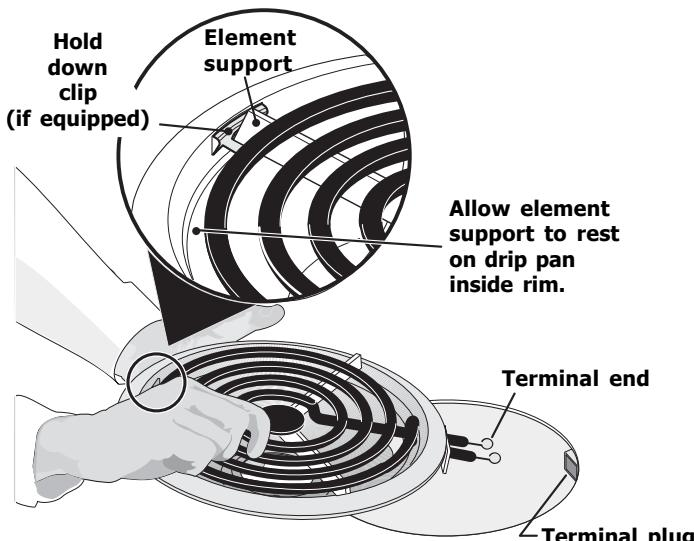

Fig. 1
- Slide the terminal end on the element through the opening in the drip bowl (See Fig. 1).